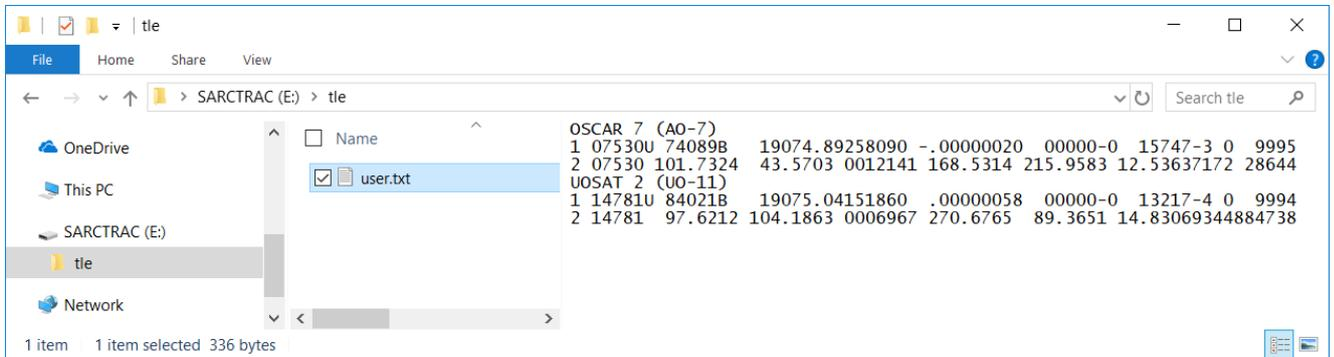

Figure 1 - User-Defined Orbital Element Library on SARCTRAC USB Disk
4. The USB Disk and its contents should look like Figure 1.